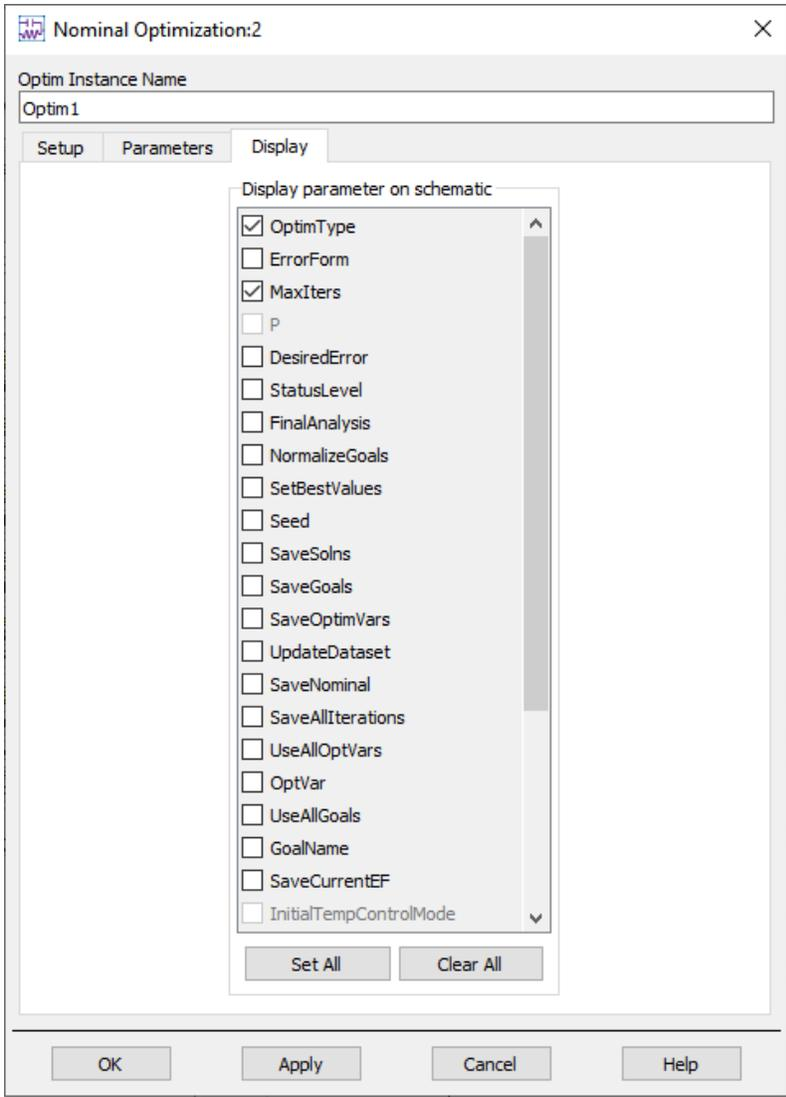
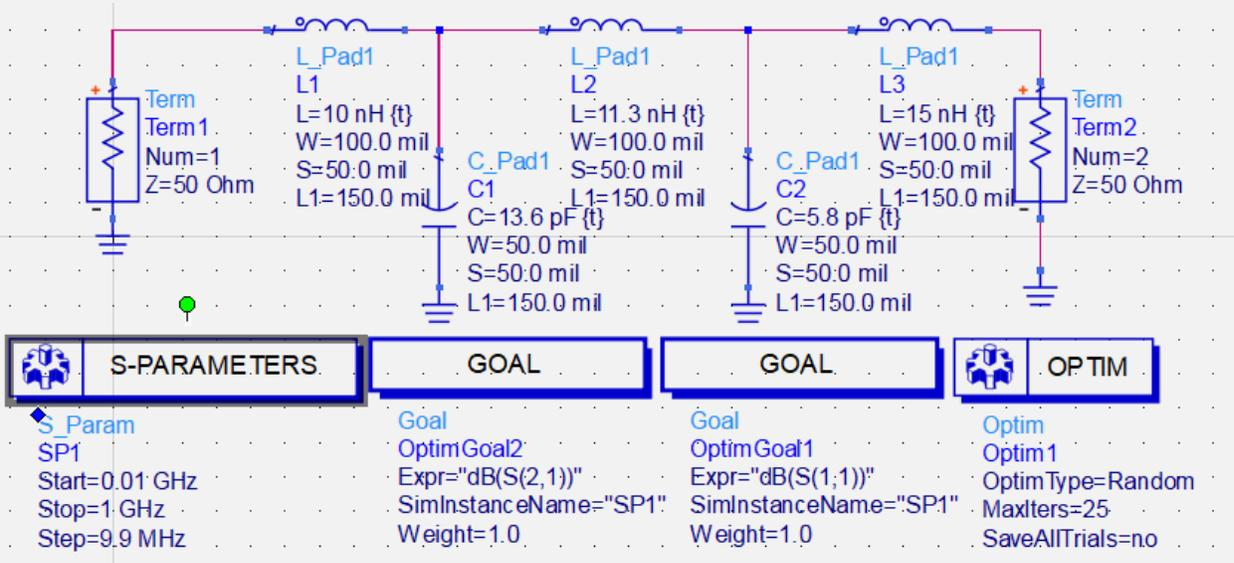

Figure 12. Optimization Controller
Figure 13. Schematic after tuning
3. Select **OptimType** and **MaxIters**. This will clean up the schematic, so that we only see the important information. This is shown in Figure 12. Click **OK**. The updated schematic is shown in Figure 13.